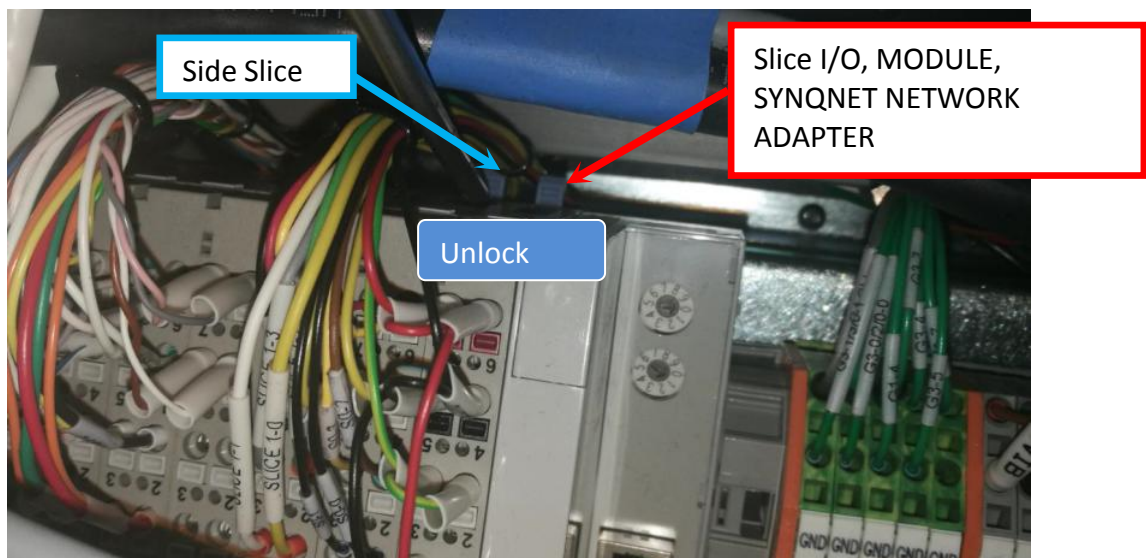

Figure 5 Slice (SYNQNET NETWORK ADAPTER) Unlock
6. Unlock Slice I/O, MODULE, SYNQNET NETWORK ADAPTER as below Figure 5